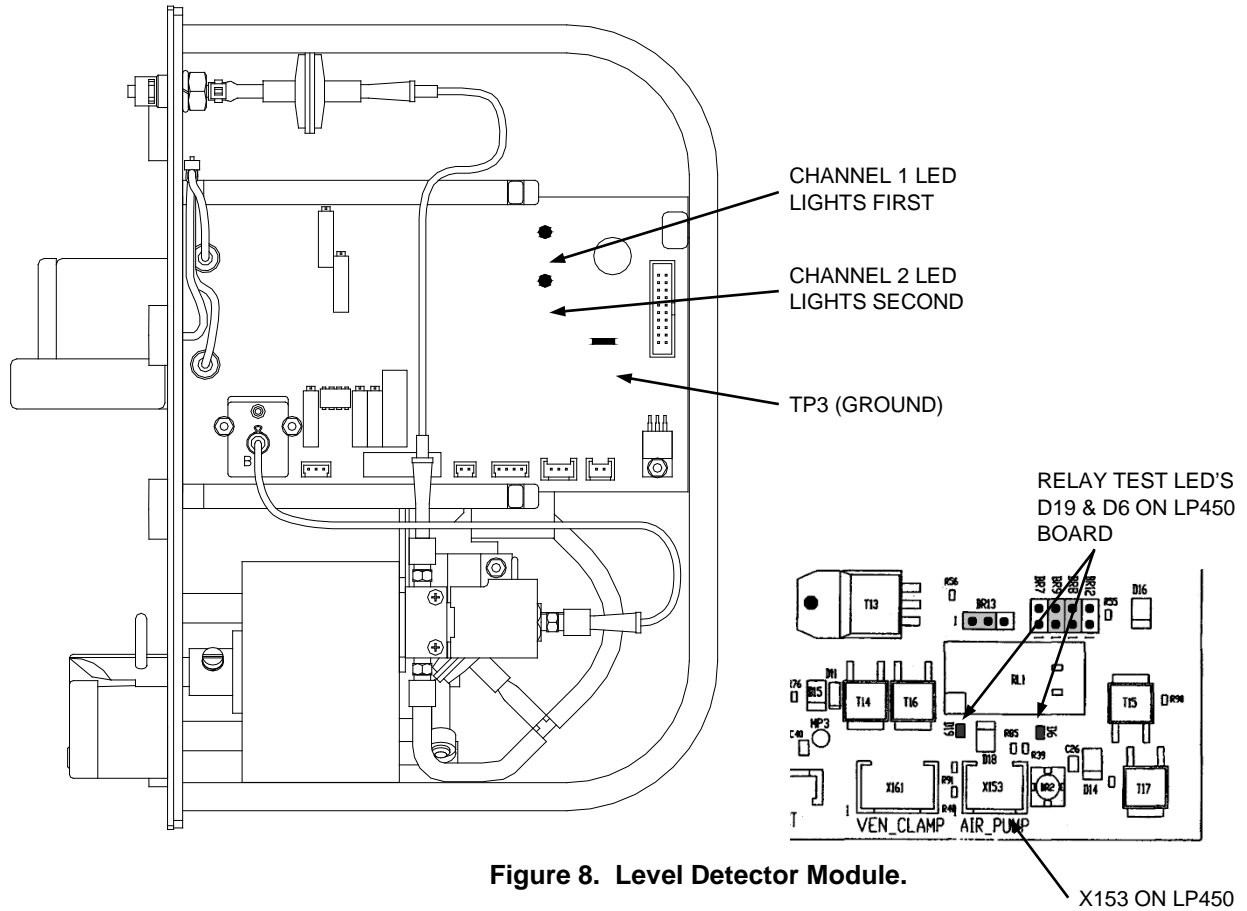

Figure 8. Level Detector Module.
3. Position the Level Detector so you can watch the Channel 1 and Channel 2 LED's on the circuit board (See Figure 8 on page 39).
- 2 Locate the relay test LED's D6 and D19 on the LP450 board (see Figure 8).